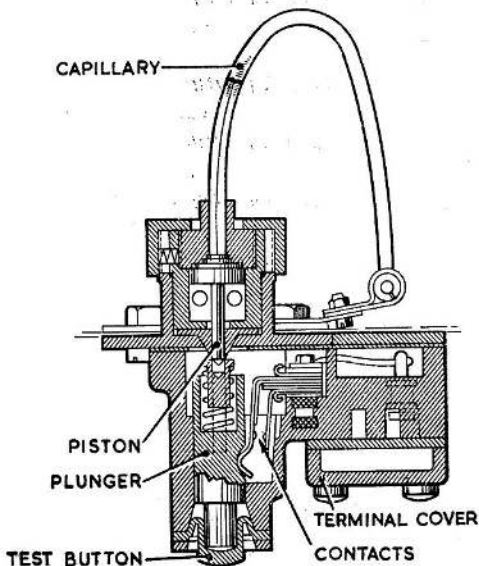

Fig. 2. Sectional view of detector
4. The detector head incorporates a pyrotechnic capillary, in the bore of which is housed a pyrotechnic cord. One end of the capillary is sealed and the other end terminates in a cap to which is screwed a cylinder containing a small piston. This assembly is fitted to the detector body as shown in *fig. 2*.